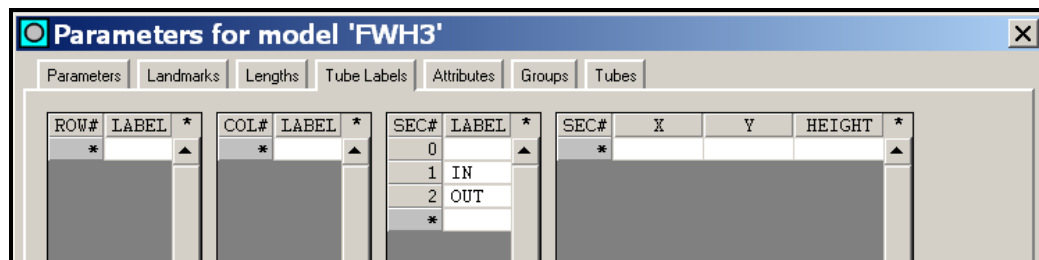

Figure 60. Parameters Dialog - Tube Labels Tab
STEP 17: Click in the **Sec Label** field for **Sec 2** and type **OUT**. The **Sec Label** fields on the **Tube Labels** tab should now appear as shown in Figure 60.